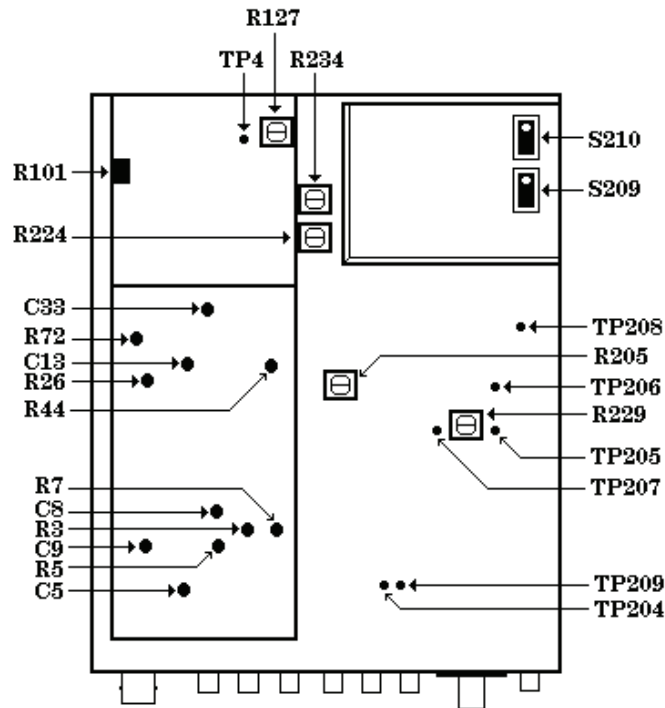

Figure 1. Test points and adjustment locations - top view.
b. Observe that slide switches S209 and S210 (fig. 1) are set for proper 120 V operation (both slide switches to left with white dot toward rear).
All test points and adjustments are shown in figure 1. Remove top cover only to make connections or adjustments and replace immediately upon completion.
- (1) Connect calibrator **OUTPUT HI** and **LO** to **TI INPUT**.
- (2) Press and release all front panel pushbuttons to the out position, except **POWER**.
- (3) Connect a short between TP204 and TP209 (fig. 1).
- (4) Set calibrator for a 1 V, 500 Hz output. Record TI indication.
- (5) Press **RANGE HOLD/AUTO** pushbutton to **HOLD**.
- (6) Set calibrator for a 0.1 V, 500 Hz output. If TI does not indicate one-tenth of value recorded in (4) above, perform **b** (1) and (2) below.
- (7) Press and release **RANGE HOLD/AUTO** pushbutton to **AUTO**.
- (8) Set calibrator for a 2.5 V dc output.
- (9) Press **FUNCTION AC+DC/AC** pushbutton to **AC+DC**. If TI does not indicate between 2.388 and 2.612 V, perform **b** (3) below.
- (10) Set calibrator for a .25 V dc output. If TI does not indicate between .2388 and .2612 V, perform **b** (4) below.
- (11) Press and release **FUNCTION AC+DC/AC** pushbutton to **AC**.
- (12) Set calibrator to output settings listed in table 3. If TI does not indicate within limits specified, perform appropriate adjustments.
1Interaction exists between R44 and R205 (fig. 1). Repeat both adjustments as required.
2Interaction exists between C8 and C5 (fig. 1). Repeat both adjustments as required.
- (13) Disconnect calibrator from TI.
- (14) Disconnect short from TP204 and TP209 (fig. 1).
- (15) Press and release **FUNCTION AC+DC/AC** pushbutton to **AC**.
- (16) Press **RANGE HOLD/AUTO** pushbutton to **HOLD** and **STEP UP** pushbutton to **20 mV** range.
- (17) Connect calibrator **OUTPUT HI** and **LO** to **TI INPUT**.
- (18) Set calibrator for a 23 mV, 500 Hz output.
(19) Increase calibrator output in increments of 0.1 mV while observing TI **UNCAL** annunciator light. If annunciator light does not illuminate from between 23.5 and 24.5 mV, perform **b** (5) through (11) below.
(20) Press and release **RANGE HOLD/AUTO** pushbutton to **AUTO**.
(1) Adjust R101 (fig. 1) until TI indicates one-tenth of value recorded in **a** (4) above (R).
(2) Press and release **RANGE HOLD/AUTO** pushbutton to **AUTO** and repeat **a** (4) through (6) above.
(3) Adjust R72 (fig. 1) until TI indicates between 2.49 and 2.51 V (R).
(4) Adjust R26 (fig 1.) until TI indicates between 0.249 and 0.251 V and repeat **a** (8) through (10) above (R).
(5) Connect multimeter **INPUT HI** to TI TP4 (fig. 1) and **INPUT LO** to TI chassis ground.
(6) Remove tape dot from adjustment R127 and turn R127 (fig. 1) fully ccw.